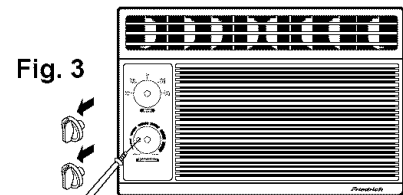

Fig. 3
1. Remove the temperature and mode control knobs by gently pulling them off. (Fig. 3)
2. Remove the screw securing the Front Grille. (Fig. 3) The screw is located behind the bottom temperature knob.